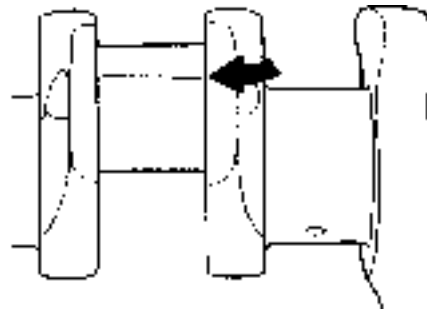

Fig. 77. Application of measuring plastic
1. Wipe clean the big-end bearing and big-end journal from oil. Cut a piece of measuring plastic to the same length as the bearing width and apply the measuring plastic along the big-end journal (Fig. 77).